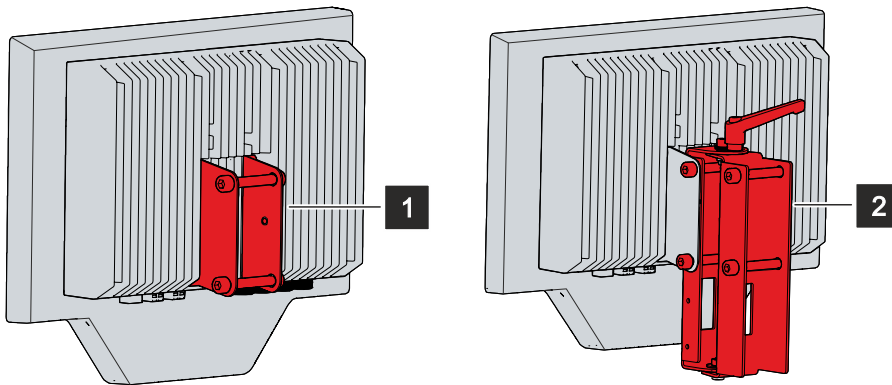

Fig. 8: Mounting arm adapter
The panel PC is supplied automatically with the standard mounting arm adapter (1) already mounted. In addition, you have the option to order a rotary adapter (2) under the order identifier C9900-M809. Figure 8 shows the two available mounting arm adapters.